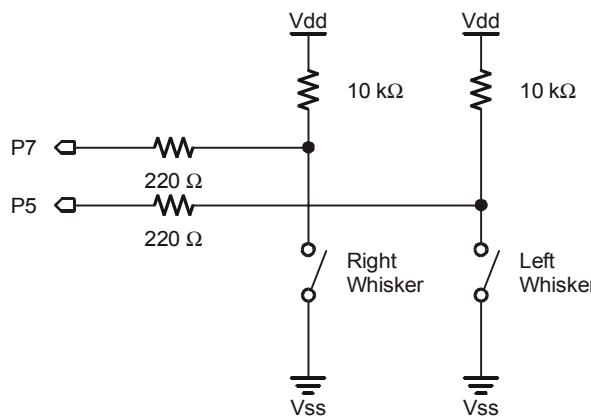

Figure 5-4
The next step is add the whiskers circuit shown in Figure 5-4 to the piezospeaker and servo circuits you built and tested in Chapter 2 and Chapter 3.
- ✓ If you have a Board of Education, build the whiskers circuit shown in Figure 5-4 using the wiring diagram in Figure 5-5 on page 169 as a reference.
- ✓ If you have a HomeWork Board, build the whiskers circuit shown in Figure 5-4 using the wiring diagram in Figure 5-6 on page 170 as a reference.